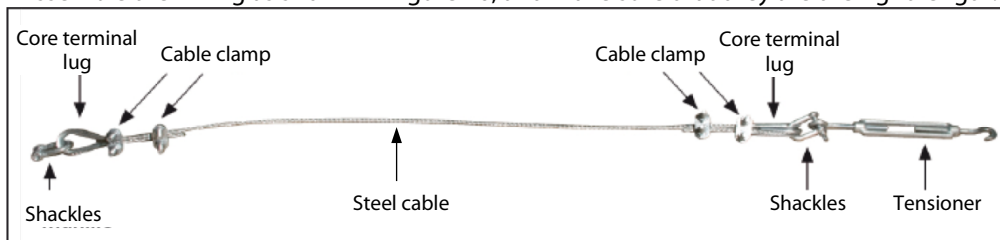

Figure 26
- Assemble the wiring as shown in Figure 26, and make sure that they are the right length.